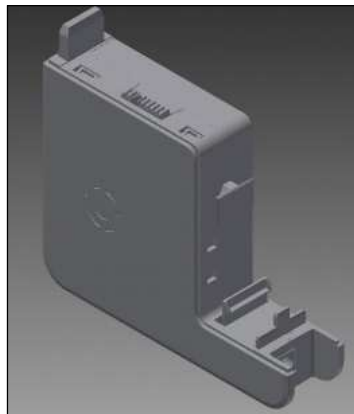

Figure 2 : Battery and Power Supply Pack
- A Battery and Supply Pack Figure 2